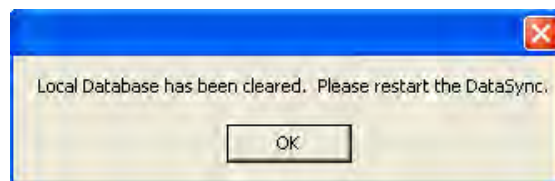

Figure 4-48: Local Database Cleared
10. If you click **OK**, the asset list is removed from the DataSync window and a message box (Figure 4-48) informs you the database is cleared.